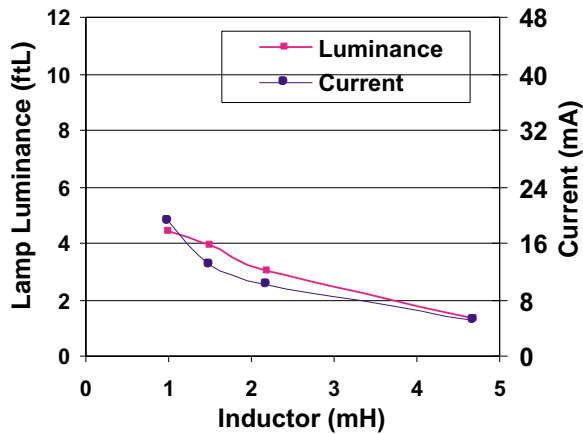

Figure 3:  $V^+=1.5V$ , 1 in2 EL Lamp
The external inductor (L) selection for a D356A circuit greatly affects the output capability and current draw of the driver. A careful designer will balance current draw considerations with output performance in the choice of an ideal inductor for a particular application. Figures 3, 4, and 5 show typical brightness and current draw of a D356A circuit with different inductor values, lamp sizes, and supply voltages. Please note that the DC resistance (DCR) of inductors with the same nominal inductance value may vary with manufacturer and inductor type. Thus, inductors made by a different manufacturer may yield different outputs, but the trend of the different curves should be similar. Lamp luminance is also a function of lamp size. In each example, a larger lamp will have less luminance with approximately the same current draw.